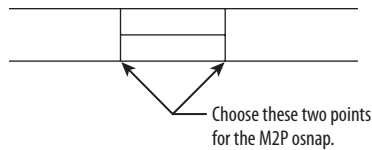

FIGURE 7.28: Selecting the two endpoints for the M2P osnap
5. With the Endpoint osnap running, move the cursor to the lower end of the left window jamb (see Figure 7.28) and click when the Endpoint marker appears.